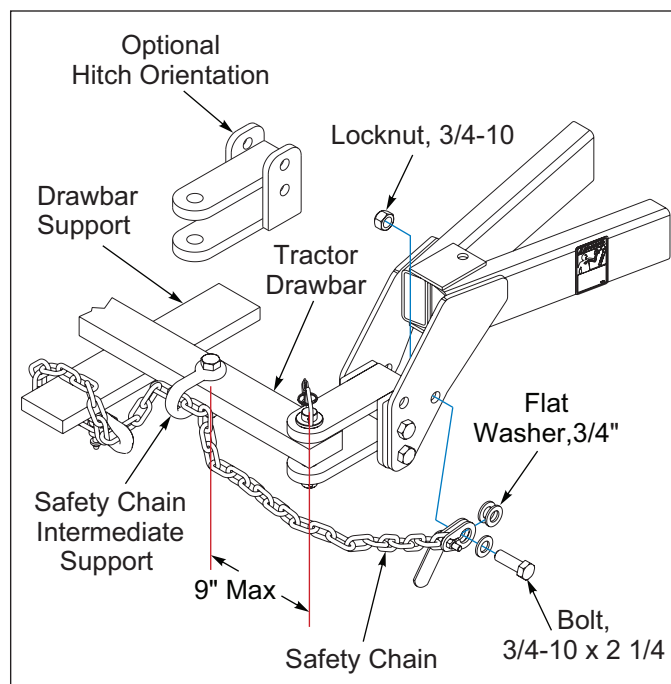

Figure 1-2: Safety Chain Hook-up
3. Attach the chain to the Tractor Drawbar Support or specified anchor location. Never attach the chain to an intermediate support. Allow only enough slack in the chain to permit turning. The distance from Hitch Pin to attachment point or intermediate support point should not exceed 9 inches. **See Figure 1-2.** If the distance from the Drawbar Pin to either the front or rear chain attachment point exceeds 9 inches, intermediate chain support is required. **See Tractor Operator's Manual.**
4. Machines with a 3 hole drawbar, **See Figure 1-2.**